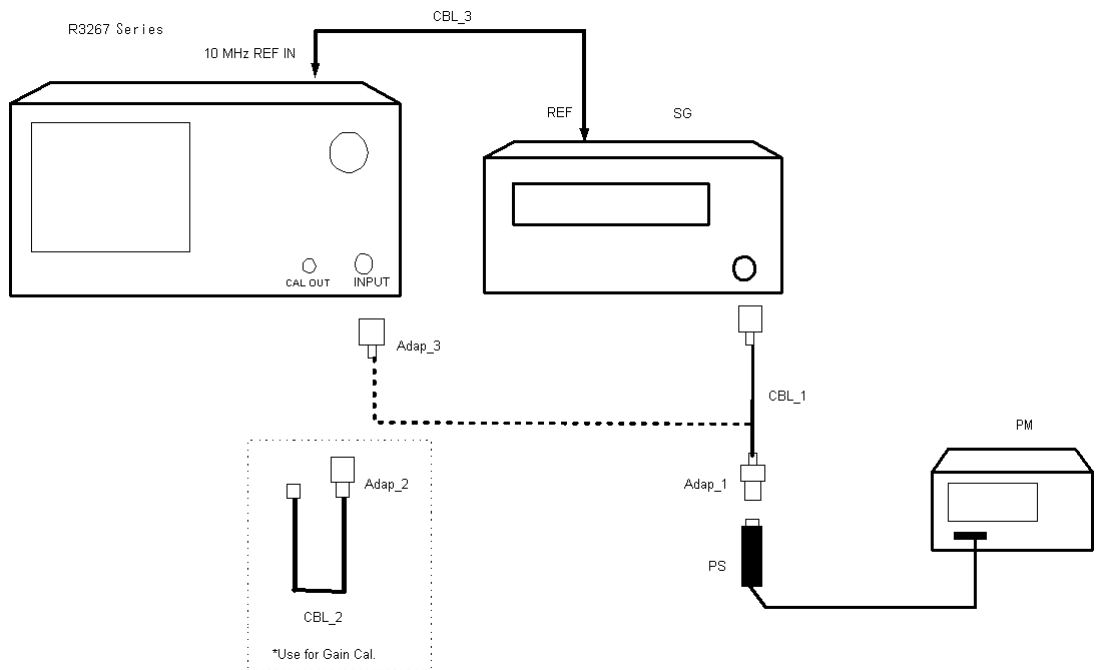

Figure 5-1 Setup of Level Calibration Test
3. Connect equipment as shown in Figure 5-1.